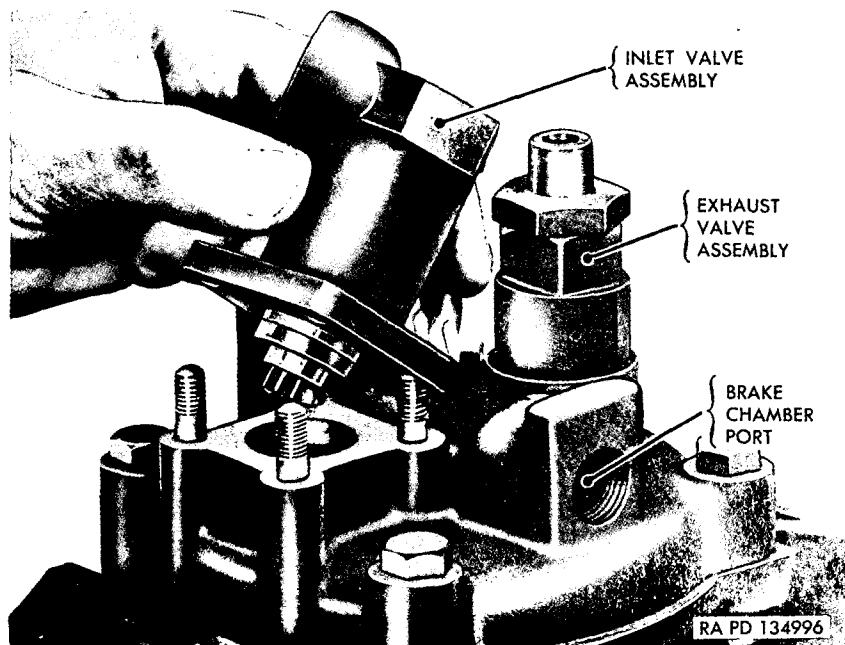

Figure 75. Removing inlet valve assembly.
c. Remove and Disassemble Inlet Valve Assembly. Remove four nuts and lock washers (fig. 85), and remove inlet valve assembly (fig. 75) from brake valve body. Remove inlet valve gasket (fig. 85). Unscrew inlet valve body from inlet valve seat and remove shim from top of valve body (fig. 85). Remove inlet valve from inlet valve seat (fig. 85). Remove dampener and spring from inlet valve body (fig. 85).
the top of the inlet valve seat. Install shim on top of inlet valve body. Screw inlet valve body on inlet valve seat and tighten securely. Position inlet valve assembly (fig. 75) at correct angle on the brake valve body, as marked before disassembly (par. 62a), and install four lock washers and nuts. Evenly tighten the four nuts holding the inlet valve assembly in place, otherwise leakage will occur.